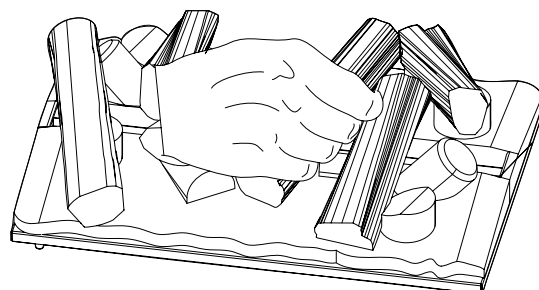

Fig.13
1. Gently lift the LED Log fuel bed out of its packaging. CAUTION: The fuel bed weighs 5kg. Be sure to only lift the fuel bed by the two centre logs (Fig. 13).